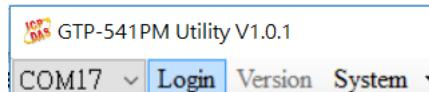
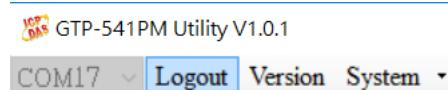

Figure 6.10.2
Figure 6.10.3
- B. Click “Login” on the Utility screen. As shown in Figure 6.10.2, if the connection is successful, the “Login” button will change to “Logout”, as shown in Figure 6.10.3